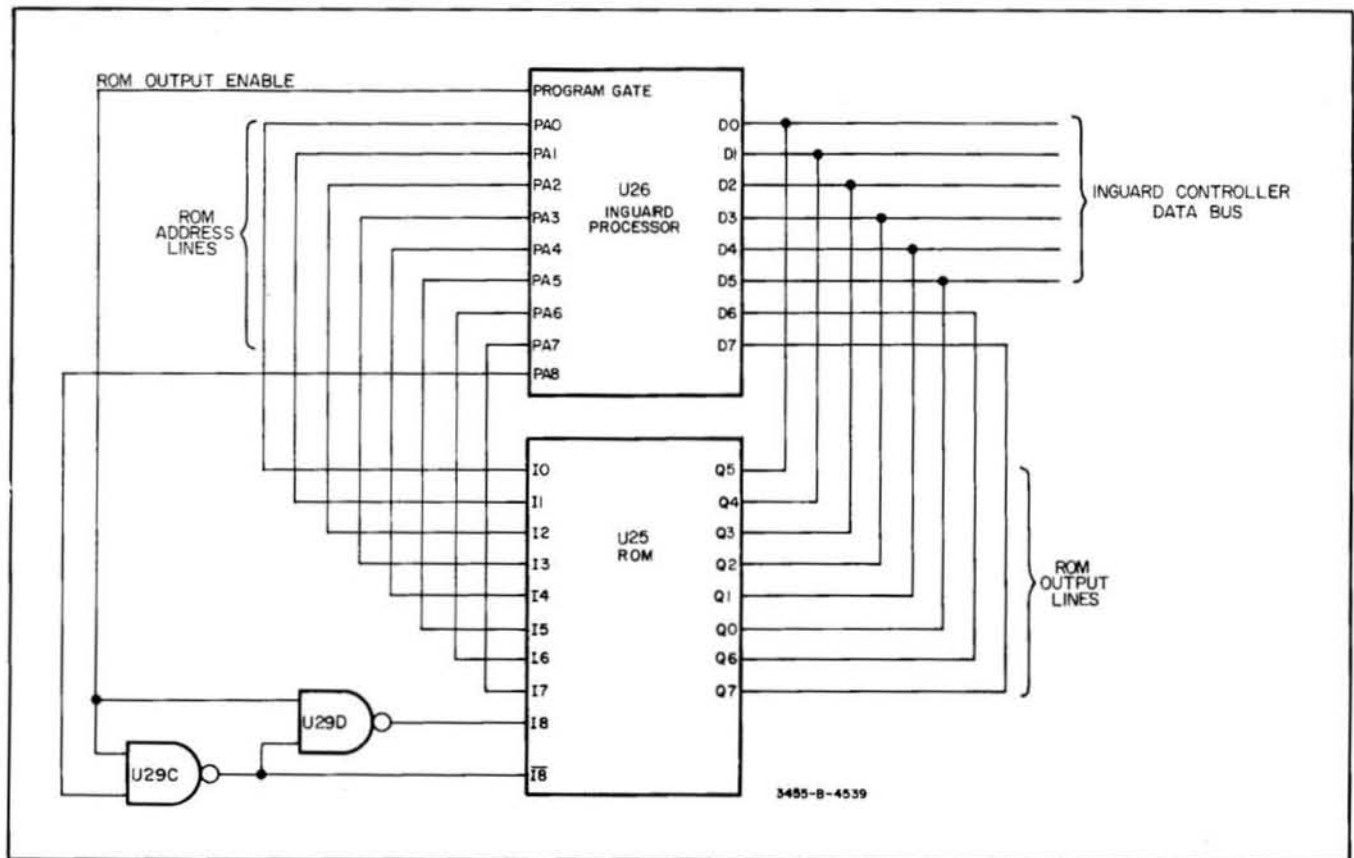

Figure 8-35. Simplified Program ROM Circuit.
**8-113. Program ROM.** Figure 8-35 shows a simplified schematic diagram of the program ROM circuitry used in the inguard controller. The program ROM contains the operation instructions for the inguard controller routine. There are 512 eight bit program storage locations contained in the ROM which are addressed by nine input lines (I0 through I8). The ROM output is connected to the processor data lines D0 through D7. The output of the ROM is enabled only when the signal level applied to  $\overline{I8}$  is the complement of the level applied to I8. This function is accomplished by gates U29C and U29D and occurs when the processor sets the "program gate" signal high.